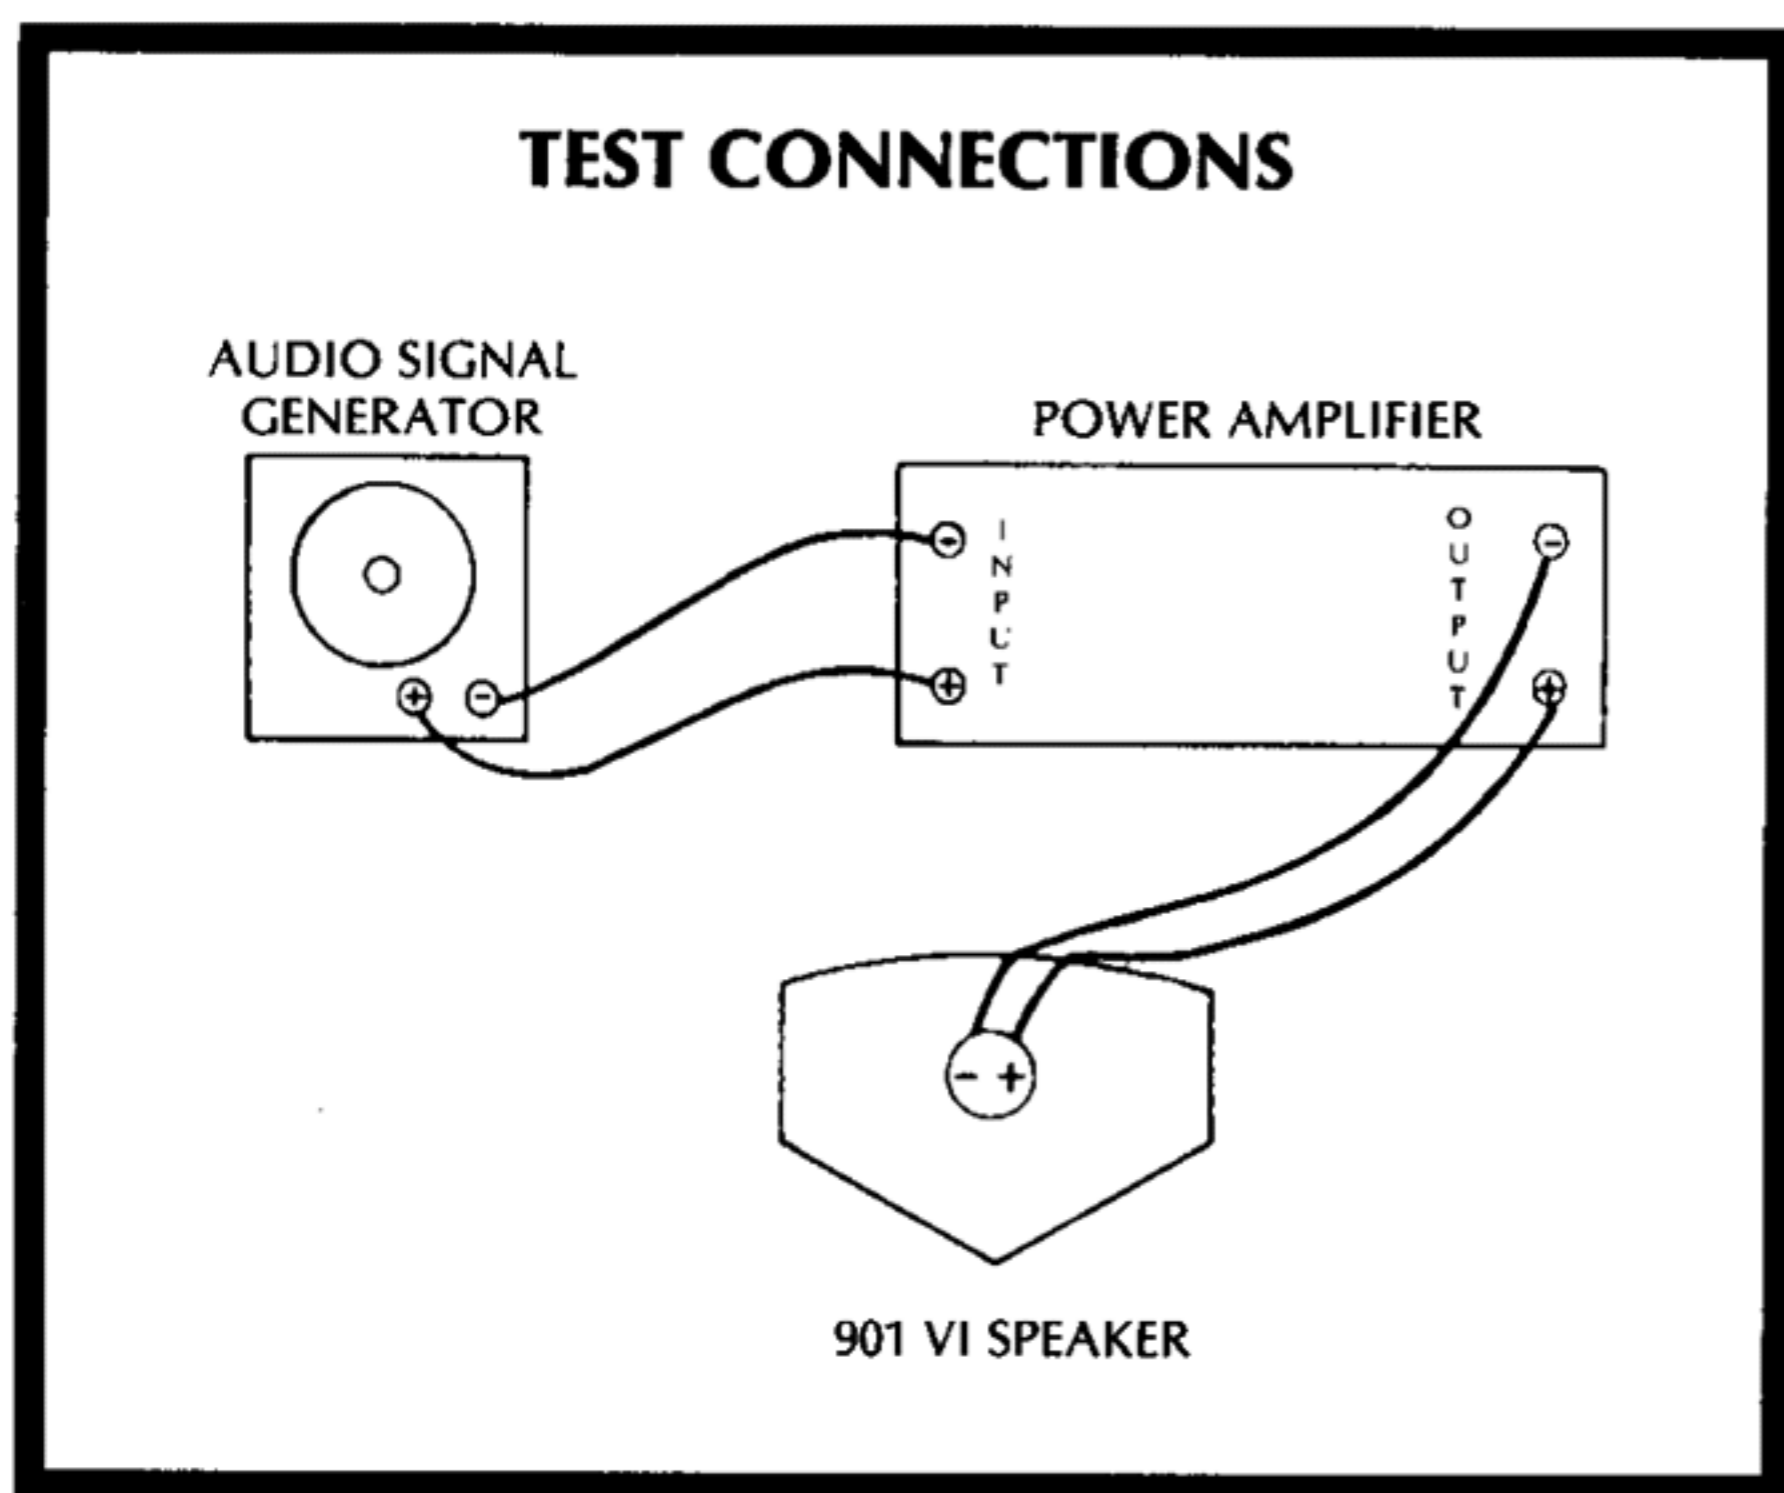

Figure 8. Test Set-Up
1.1 Apply a 10 Hz, 25 Volts rms signal (with the use of an amplifier) to the speaker terminals. Refer to Figure 8. No extraneous noises such as rubbing, scraping, or ticking should be heard.